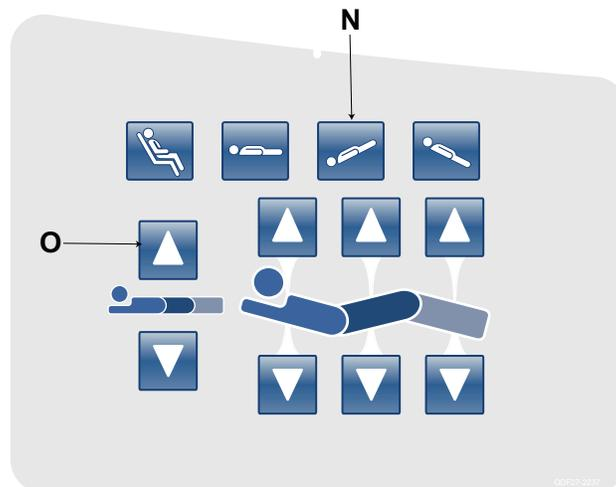

Figure 17 – Bed highest height
23. To place the bed at the highest height, press the **Trendelenburg (foot lift up) (N)** button and **Bed Height Up (head lift up) (O)** button simultaneously (Figure 17).